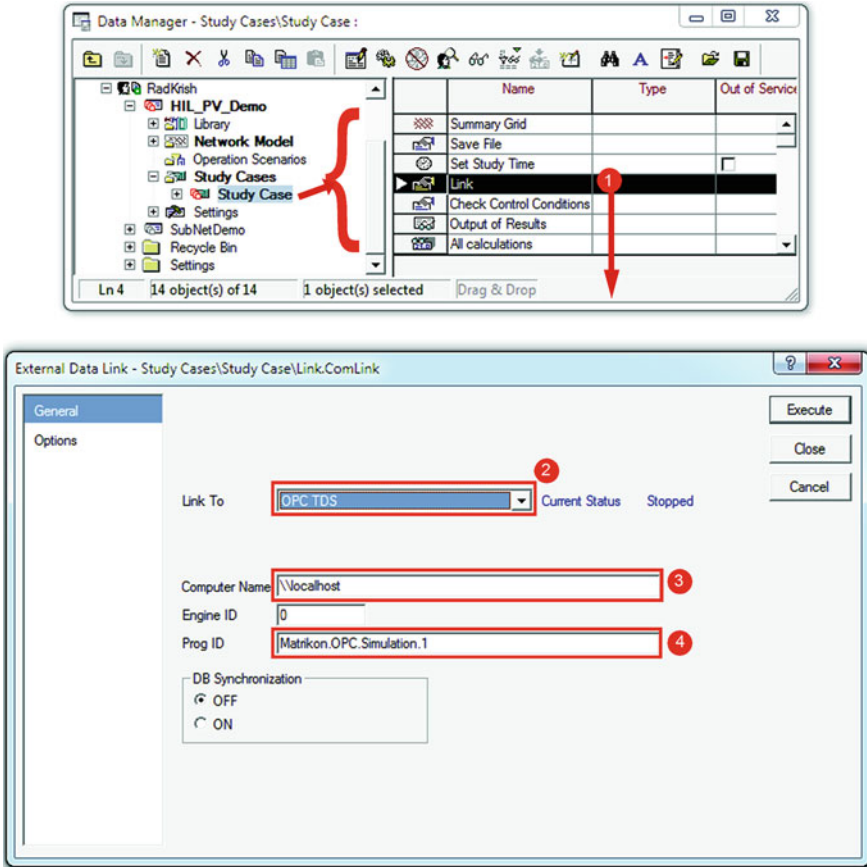

Fig. 16.9 PowerFactory screenshot showing data manger with an active study case and the OPC link command object editor
3. Locate the OPC connectivity command object (*.ComLink) named link inside the active study case (marked ① in Fig. 16.9)
- “**Link To**” parameter as “*OPC TDS*” (marked as ② in Fig. 16.9). TDS stands for time domain simulation. Another useful type of link is “*OPC OSE*,” where OSE stands for online state estimation.⁸